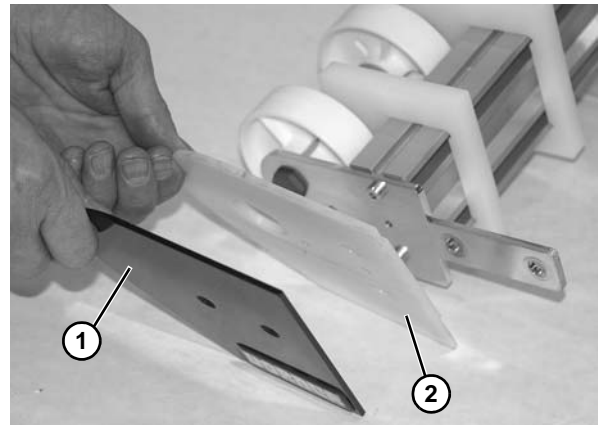

Figure 79
5. Remove cover plate (Figure 79, item 1) and filler plate (Figure 79, item 2). Repeat procedure on opposite side.